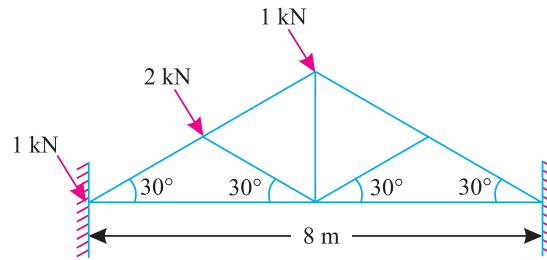

Fig. 14.51.
**Example 14.21.** Figure 14.51 shows as roof truss with both ends fixed. The truss is subjected to wind loads normal to the main rafter.